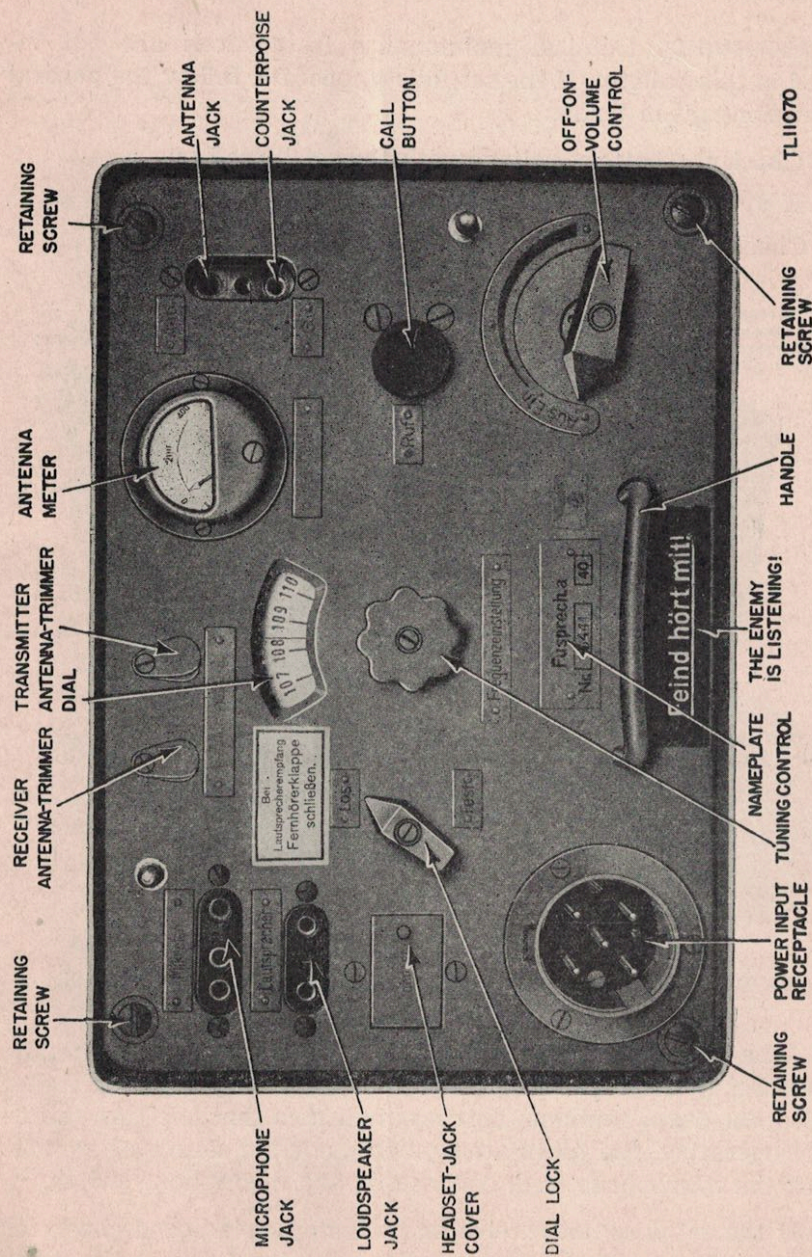
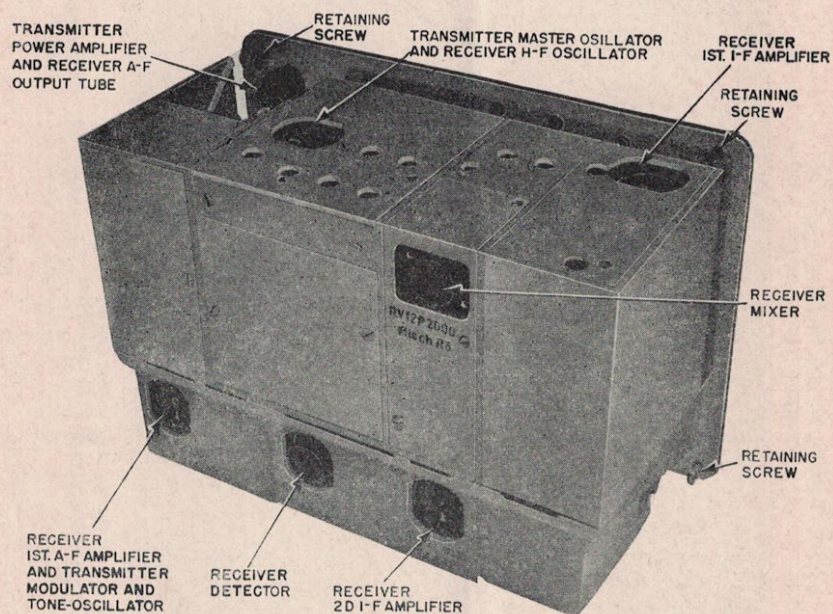

Figure 5. German radio set Fusprech.a, front view.
Figure 6. Chassis of German radio set Fusprech.a, top and rear view.
b. Turn the dial lock, marked **Los** (unlocked) and **Fest** (locked), to the **Los** (unlocked) position as shown in figure 5. Select the desired frequency by means of the control marked **Frequenzeinstellung** (tuning control). Lock the tuning control by turning the dial lock to **Fest** (locked).
f. To change the tubes remove the set from the case. Loosen the four retaining screws on the front panel of the set (fig. 5). Each retaining screw is encircled with a red ring. Then pull the set from the case. Figure 6 is a top rear view of the set with the case removed, and shows the position and function of all the tubes.